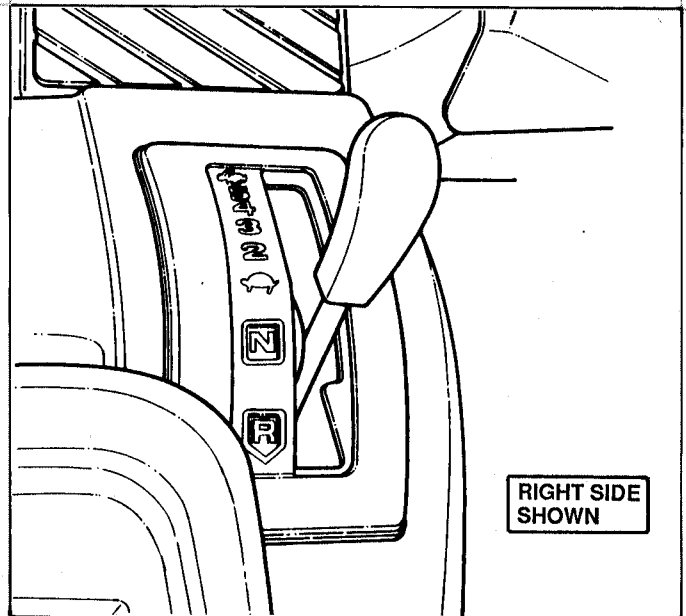

FIGURE 6
1. With **CLUTCH/BRAKE pedal** depressed, shift **SPEED SELECTOR** to **1** for forward or **R** for reverse and release pedal. (For comfort and safety, always shift back to **1** before starting forward). See Figure 6.